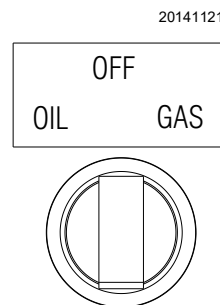

Fig. 33
- fuel selector switch in **"GAS"** position (Fig. 33).